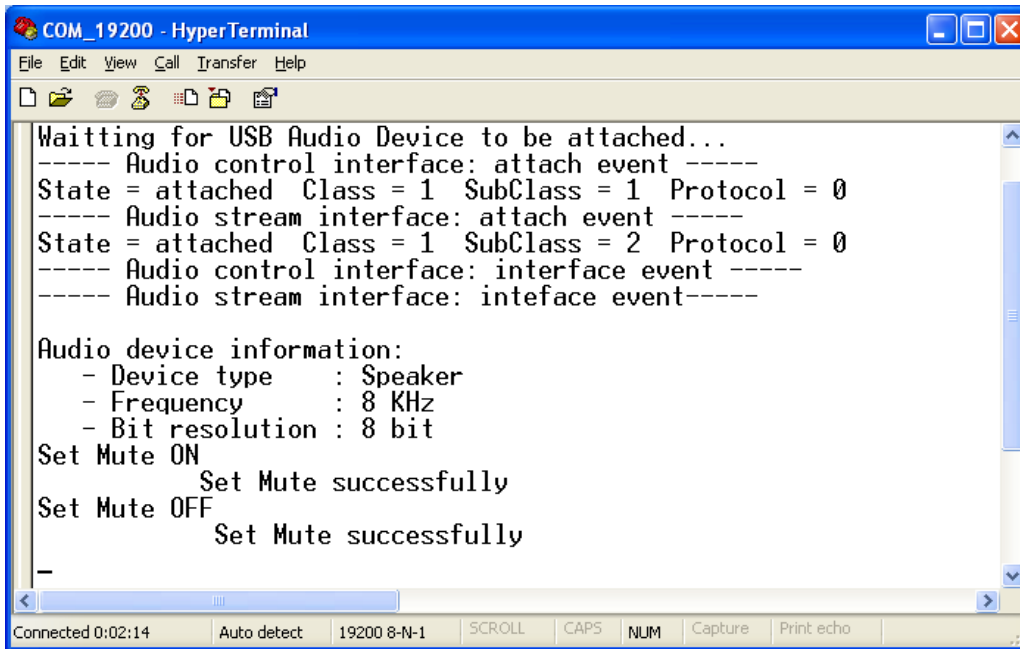

Figure E-5. Set Mute ON/OFF
4. Press Switch 1 to set Mute ON/OFF. The HyperTerminal screen appears as shown in Figure E-5.